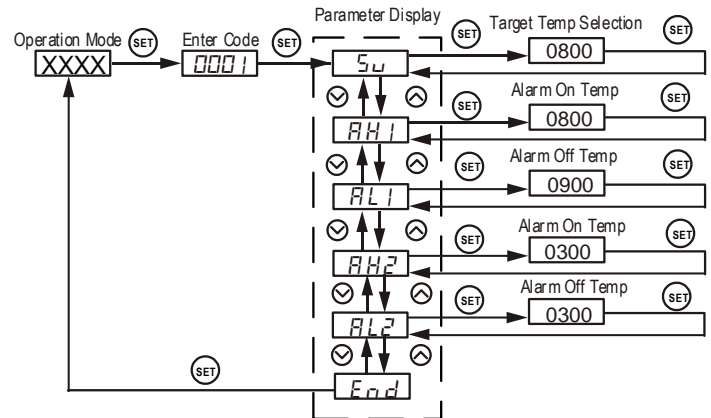

Figure 5. Flow chart for how to set target temperature and alarm
The temperature and alarm parameters are listed in table 4. To change the parameters, press SET key, enter code "0001", then press SET again. Figure 5 is the parameter flow chart.
b. Follow the flow chart shown in Figure 5. This method is easier for large temperature change. If no key is pressed after confirmation of SV, the controller will return to normal operation mode automatically in 1 minute.